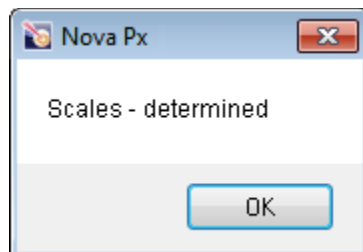

Fig. 7-17
14. Define position of the laser spot in the videoimage by clicking on a relevant location with the <Alt> key being pressed. This will open a Message box (Fig. 7-17), close this box by clicking the **OK** button.